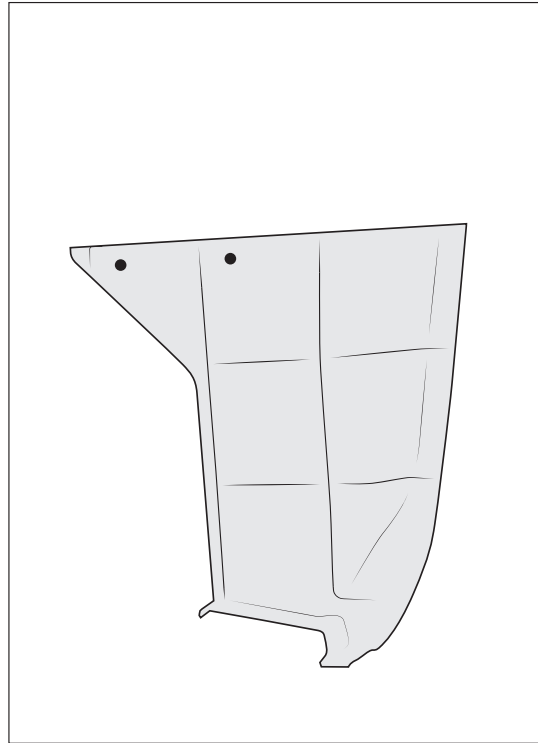

Figure 23
- B. Drill two 1/4" holes placed one inch from the vertical ribs and 1/2 inch down from the cut line (fig. 23).